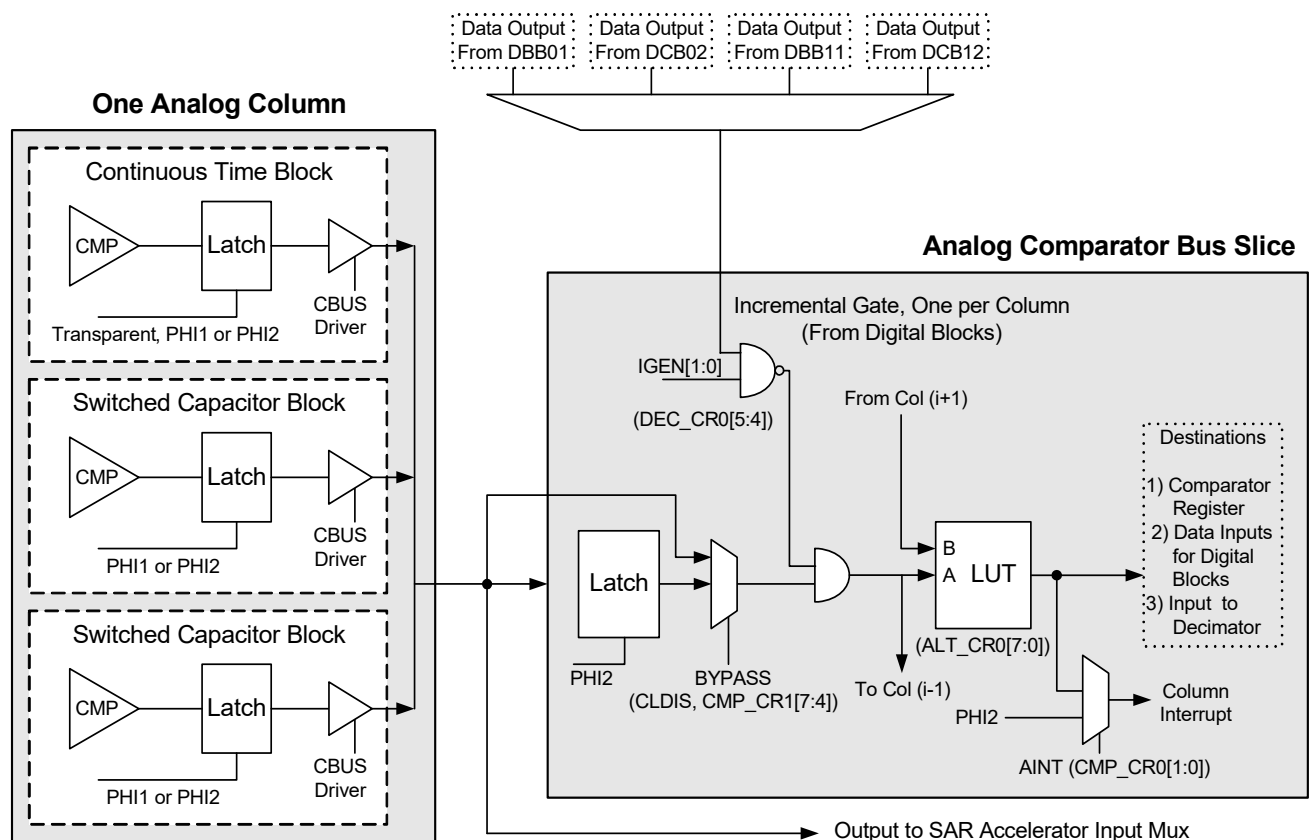

Figure 18-1. Analog Comparator Bus Slice
Figure 18-1 displays the top level diagram of the PSoC device’s analog interface system.
Figure 18-1 illustrates one column of the comparator bus. In the Continuous Time (CT) analog blocks, the CPhase and CLatch bits of CT Block Control Register 2 determine whether the output signal on the comparator bus is latched inside the block, and if it is, which clock phase it is latched on. In the Switched Capacitor (SC) analog blocks, the output on the comparator bus is always latched. The ClockPhase bit in SC Block Control Register 0 determines the phase on which this data is latched and available.
As shown in Figure 18-1, the comparator bus output is gated by the primary output of a selected digital block. This feature is used to precisely control the integration period of an incremental ADC. Any digital block can be used to drive the gate signal. This selection may be made with the ICLKS bits in registers DEC\_CR0 and DEC\_CR1. This function may be enabled on a column-by-column basis, by setting the IGEN bits in the DEC\_CR0 register.